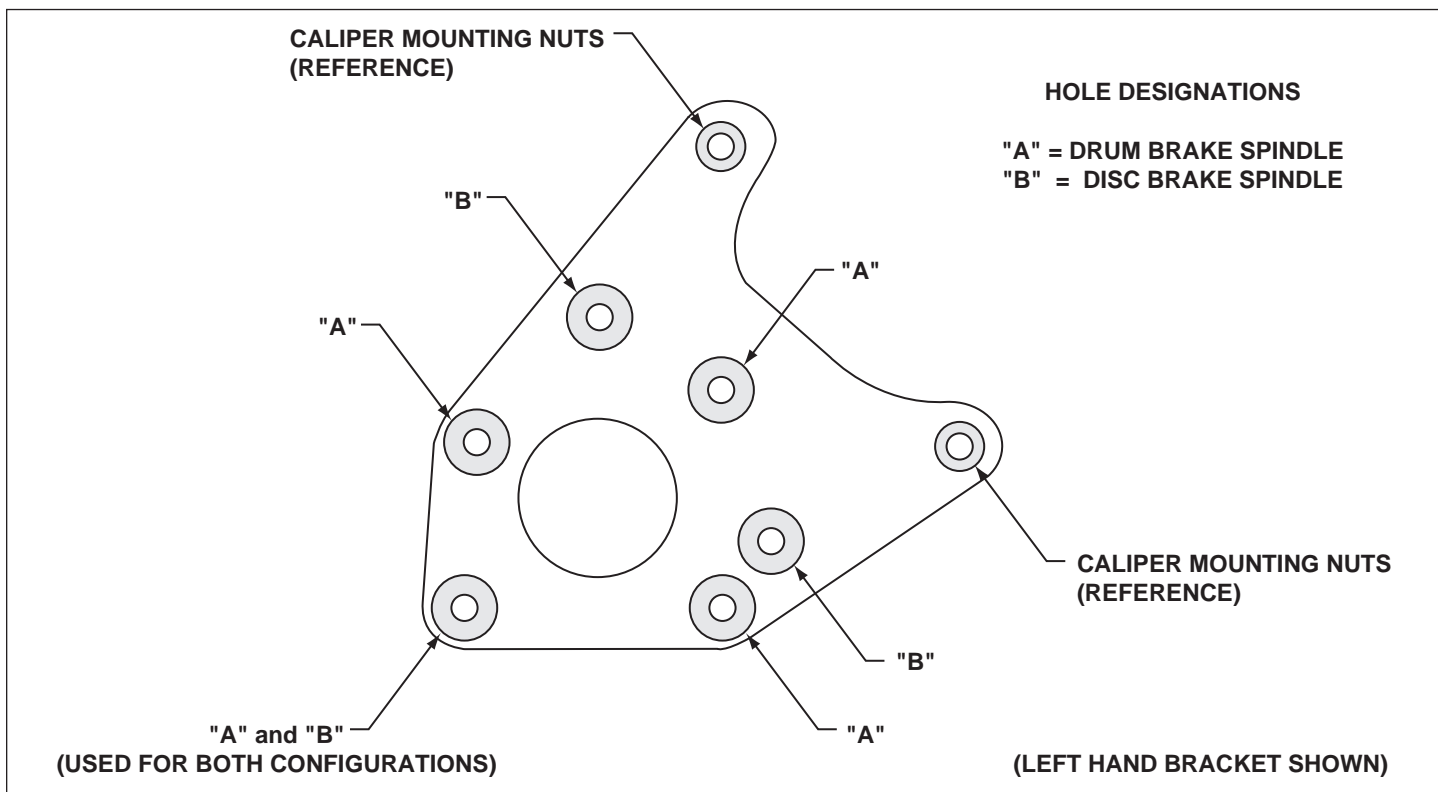
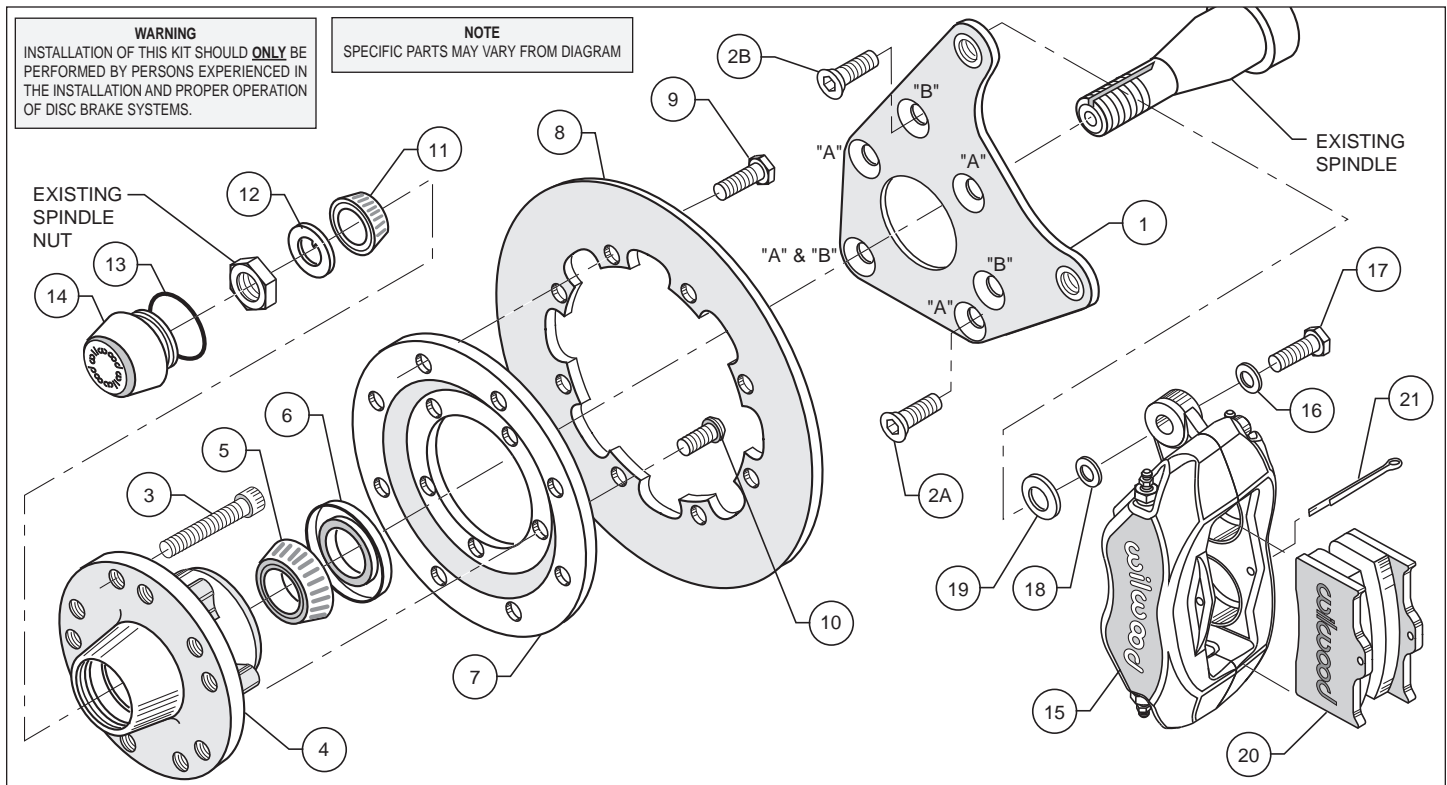
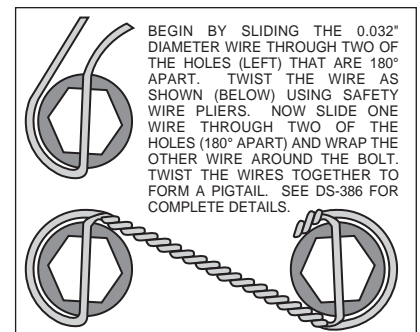
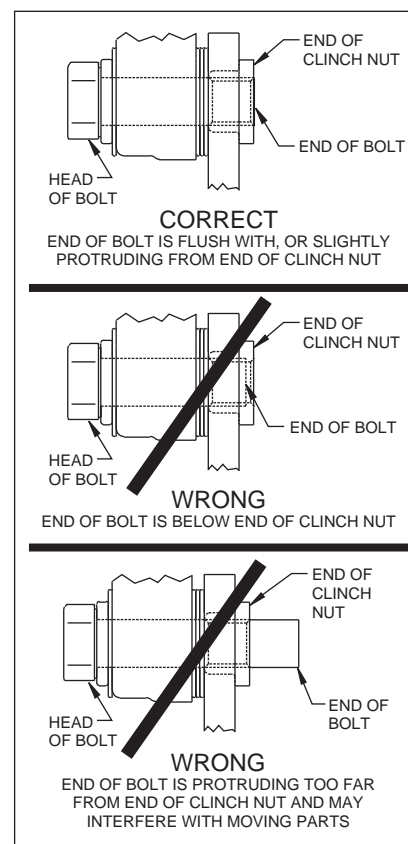

Figure 1. Wilwood Caliper Mounting Bracket
Figure 2. Typical Installation Configuration
Figure 4. Safety Wire Diagram
Figure 5.
This kit has been designed for use with both the disc brake or the drum brake configuration of vehicle. The only difference is in how the Wilwood caliper mounting bracket is installed. The same bracket is used for both configurations; the disc brake version utilizes three mounting holes while the drum brake application uses four mounting holes (see Figure 1). For your convenience we have supplied bolt kits for both applications (see parts list and Figure 2 as necessary, item(s) 2A and 2B). Use the bolt kit that is applicable to your vehicle and disregard the other one.
These modifications should be performed by a qualified machinist and completed before assembly of the Wilwood disc brake kit begins. Using the caliper mounting bracket as a template (refer to figure 1 as necessary), locate and verify the three original stock holes on the steering arm that need to be modified. Drill a .332 diameter hole through all three holes, then tap 3/8-24 UNF (fine thread). Countersink the holes to .438 x 90°.
- As mentioned before, this kit uses the same mounting bracket (1) for both the drum and disc brake spindle. The drum version utilizes four mounting bolts (designated with a "A"), while the disc only requires three (designated with a "B"). Refer to figure 1 and figure 2 as required for the basic installation position of the bracket and the "A" and "B" reference designations (these designations are not physically marked on the bracket, they are referenced on the drawings for your convenience) and align using the three or four holes (as applicable) to the face plate of the steering arm. Install bolts (2A or 2B) through caliper mounting bracket (1) into steering arm, finger tighten only. After you are positive of the bracket (1) alignment, remove the mounting bolts (2A or 2B) one at a time and Apply red *Loctite*® 271 to bolt threads (2A or 2B), then reinstall. Torque bolts (2A or 2B) to 30 ft-lb. **NOTE:** Be sure the heads of the bracket (1) insert nuts are facing outward toward the wheel.
- Install wheel studs (3) into the hub (4). Torque to 77 ft-lb. **NOTE:** There are two (2) five lug patterns in the hub (5 x 4.50 and 5 x 4.75). Make sure of the correct hole pattern for the correct wheel application before installing studs into hub.
- Pack the large inner bearing cone (5) with high temperature disc brake bearing grease (available from your local auto parts store) and install into the backside of the hub (4).
- Install the grease seal (6) by pressing into the backside of the hub (4).
- Attach rotor adapter plate (7) to rotor (8) using bolts (9). Using an alternating sequence, apply red *Loctite*® 271 to the threads and torque bolts to 25 ft-lb. For an added measure of security, the bolts may be safety wired using standard 0.032 inch diameter stainless steel safety wire as shown in Figure 4. **NOTE:** Dished side of adapter plate (7) should face hub (4). The machined tab side of the iron rotor (8) should face the adapter plate (7).
- Mount the adapter/rotor assembly (7/8) to the hub (4) using bolts (10) (finger tight), as shown in Figure 1. Using an alternating sequence, remove bolts one at a time, apply red *Loctite*® 271 to the threads, and torque to 55 ft-lb.
- Pack the small outer bearing cone (11) with high temperature disc brake bearing grease and install into front of hub (4). Slide the hub/rotor assembly (4 and 8) with outer bearing cone (11) onto the spindle. Secure using spindle washer (12), stock adjusting nut and nut locking device. Adjust bearings per Original Equipment Manufacturer (OEM) specifications.
- Install the o-ring (13) and then the dust cap (14) onto the hub (4). Friction created by the o-ring (13) on the dust cap (14) keeps it from unscrewing.
- NOTE:** Please reference the caution statement at the beginning of the assembly instructions. Mount the caliper (15) onto the caliper bracket (1) using washers (16) and bolts (17). Place two spacer washers (19) between the caliper (15) and the caliper mounting bracket (1) before sliding the mounting bolts (17) all the way into the caliper mounting bracket (1), finger tighten only. View the rotor (8) through the top opening of the caliper (15). The rotor (8) should be aligned in the center of the caliper (15). If not, adjust the caliper (15) by using 0.032 inch thick shims (18) placed between the caliper (15) and the caliper spacer washer (19). Finger tighten and recheck alignment. Use as many shim washers (18) as necessary to achieve the correct alignment. Add as many shim washers (18) as necessary to achieve the correct alignment. **NOTE:** The end of the bolt must be flush with or slightly protruding from the head of the clinch nut. See Figure 5. Place spare shims (18) between washer and caliper mounting ear to achieve the proper mounting fastener configuration. Always use the same amount of shims on both the top and bottom caliper mounting bolts (17). Apply red *Loctite*® 271 to bolt threads (17) and torque to 40 ft-lb. Caliper mount bolts may be safety wired for additional security.